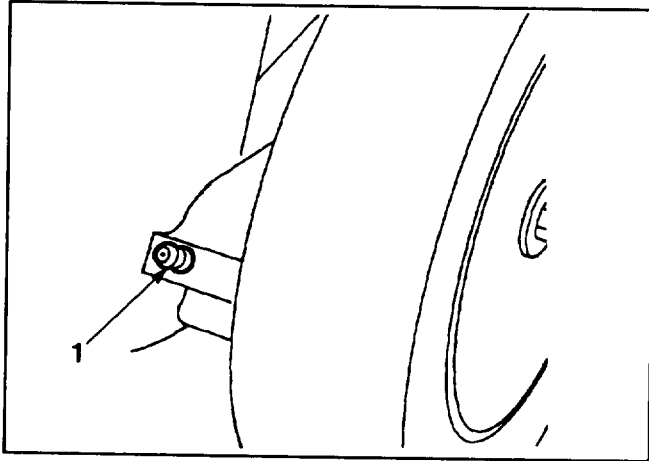

Figure 24
2. Move rear wheel height-of-cut levers to "2" setting. Wipe grease fittings with clean rag (Fig. 24). Install grease gun onto fitting and gently apply two or three pumps of #2 Multi-Purpose Lithium Base Grease.